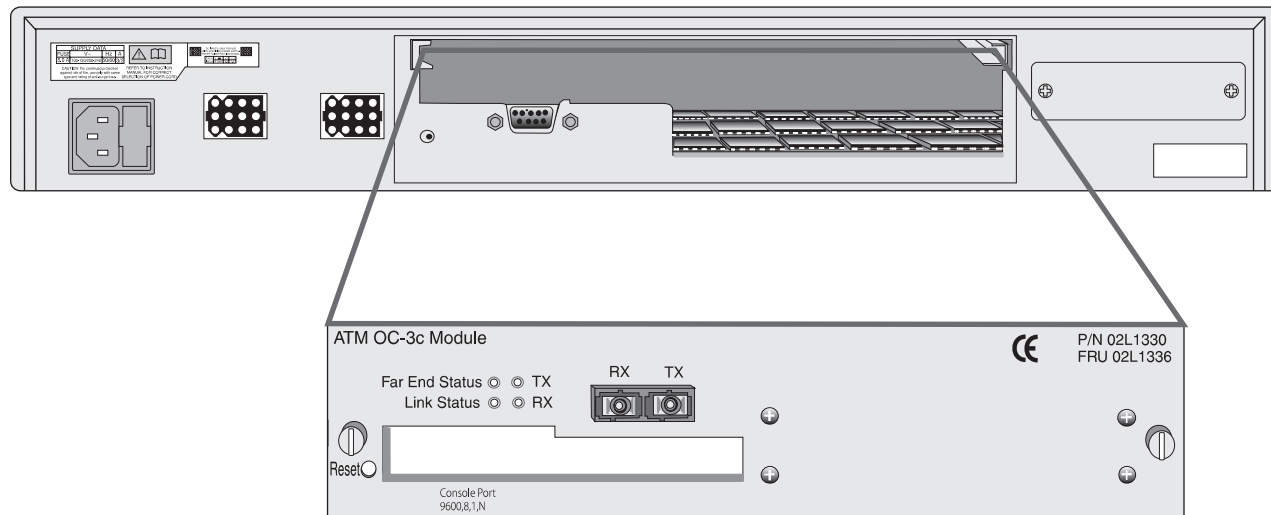

Figure 6-1 Fitting the ATM Module
- 4 Use the guide rails within the Switch slot to align the ATM Module. The location of the guide rails and the correct positioning of the ATM Module is shown in Figure 6-1.